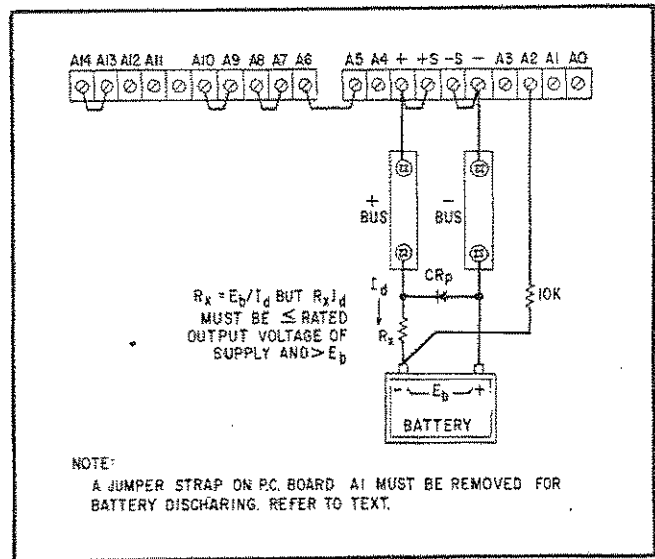

Figure 3-11. Battery Discharging
**3-59 Automatic constant current, unattended discharging** of a battery using the SCR-10 Series requires certain changes in the strapping configuration on the rear barrier strip as illustrated in Figure 3-11. Also, a jumper strap on P.C. Board A1 must be removed (see Figure 7-1 for location). Removal of this jumper ensures that the internal programming current does not flow into terminal A2. Before operation, the user should make sure that the interconnecting leads between supply and battery are secure and cannot become opened.
**3-60** The supply initially operates in constant current mode at the value set by the current control. When the battery voltage is high the supply output voltage will be low, and as the battery discharges the supply output voltage increases. A constant voltage is maintained across  $R_X$  (constant current through  $R_X$ ). This condition will prevail until the battery voltage drops to zero. At this point, the supply will switch off and no more current will flow through  $R_X$ . Diode  $CR_p$  protects the supply against reverse voltages. As shown on Figure 3-11,  $R_X$  must be selected so that its IR drop is less than the maximum rated output of the supply yet greater than the battery voltage.